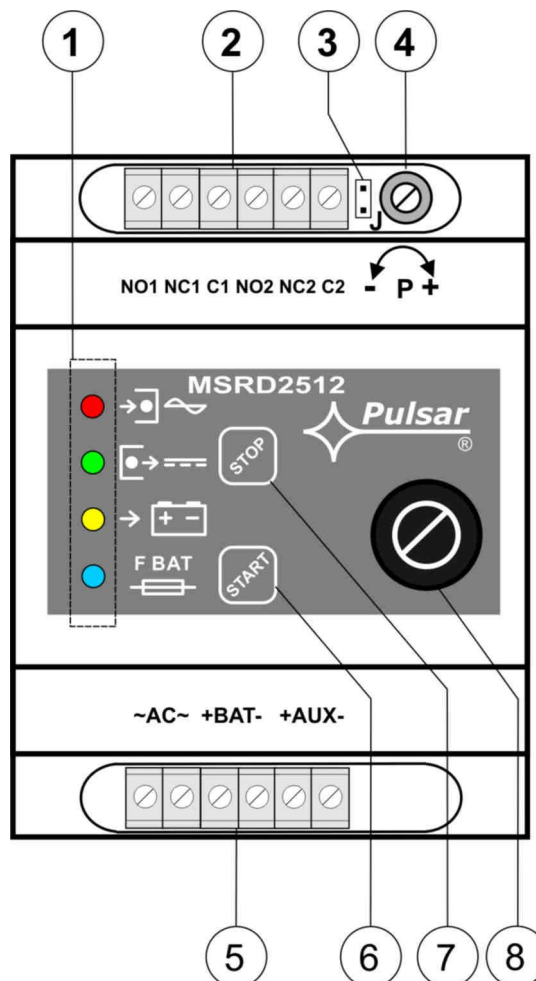

Fig.2. The view of the power-supply module.
1.3. Description of elements and connection links of the PSU module (tab.1, tab.2, fig.2).
Element no. [fig.2]	Element description